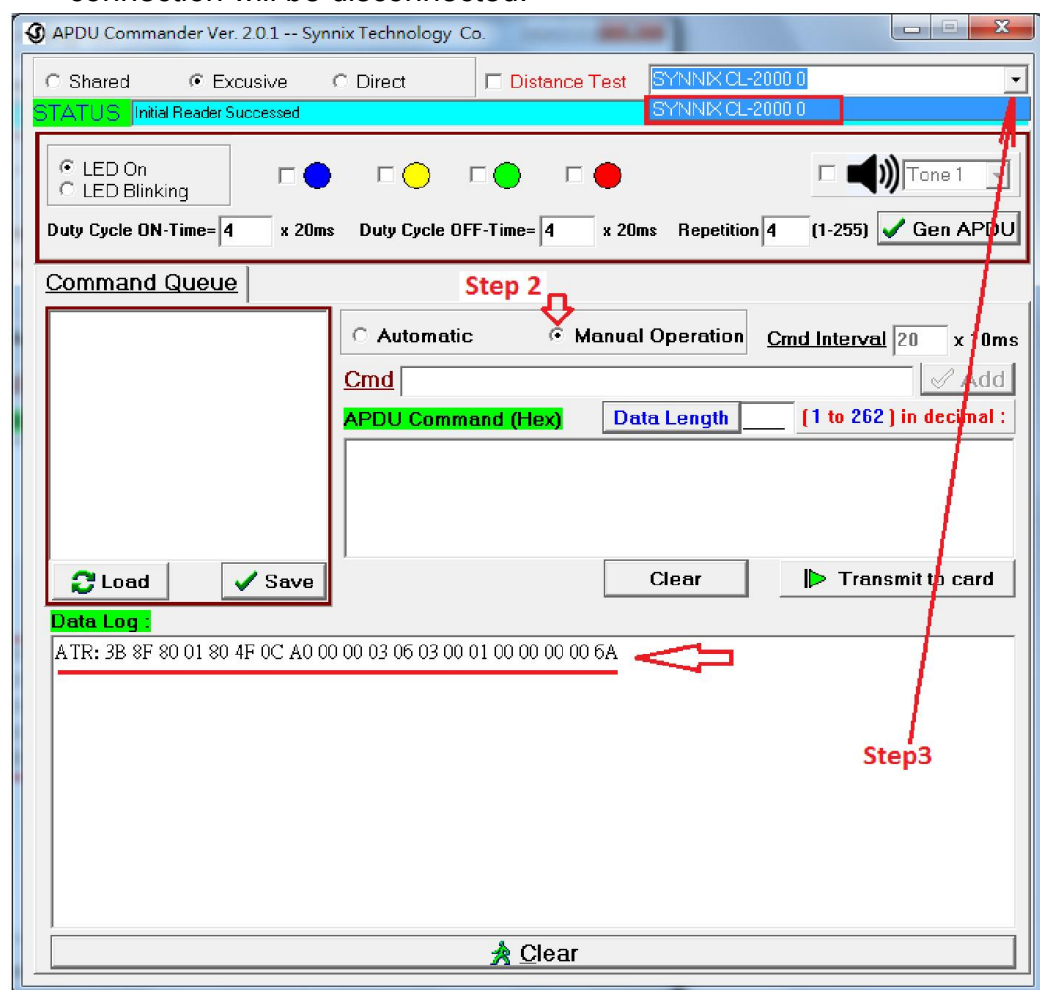

Figure 3
2. Click on the “Manual Operation”. See Figure 3
3. Pull-down the manu bar and select “SYNNIX CL-2000”. See Figure 3